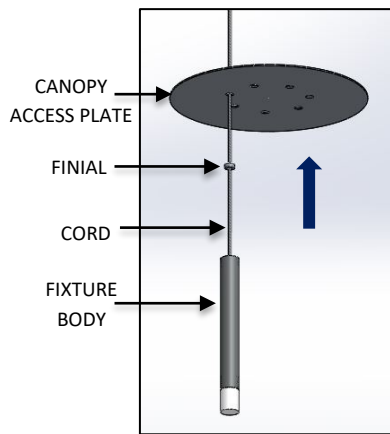

FIG. 7 – FIXTURE INSTALLATION
4. Raise the GLOWSTICK FIXTURE BODY and feed FIXTURE CORD through FINIAL, the hole in CANOPY ACCESS PLATE and FIXTURE BRACKET as shown below in FIG. 7. Adjust fixture drop to desired height. Mark cord with marker inside of HANGING BRACKET as shown below in FIG. 8. Trim off excess cord leaving minimum of 8.00" past the top of the DRIVER MOUNTING BRACKET all thread.